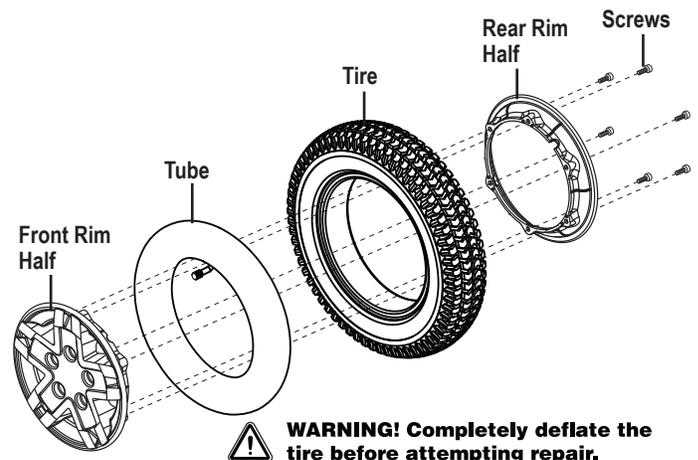

Figure 20. Q4 Drive Wheel Disassembled
6. Remove the screws and separate the front and rear rim. **See figure 20.**
10. Reinstall the five (5) lug nuts onto the wheel hub and tighten.